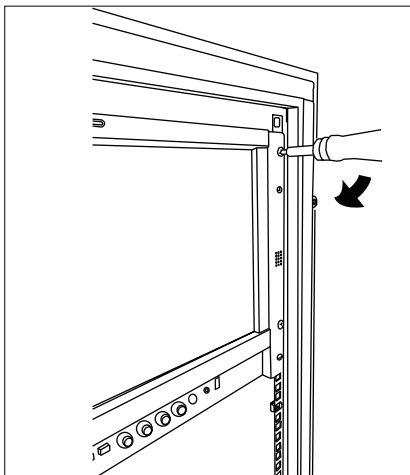

Figure 3
2. Install the left and right side rack products on the 19-inch standard cabinet as shown in figure 3.